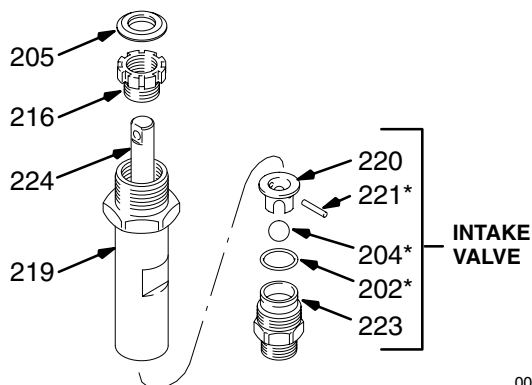

Fig. 23
Displacement Pump Repair (Fig. 23, 24, 25 and 26)
2. Unscrew the intake valve (223) from the cylinder (219). Remove all parts. See Fig. 23.
4. Remove the packing nut (216) and plug (205). See Fig. 23.
5. Use a plastic mallet to tap the piston rod (224) down, then pull the rod out through the bottom of the cylinder (219). See Fig. 23.